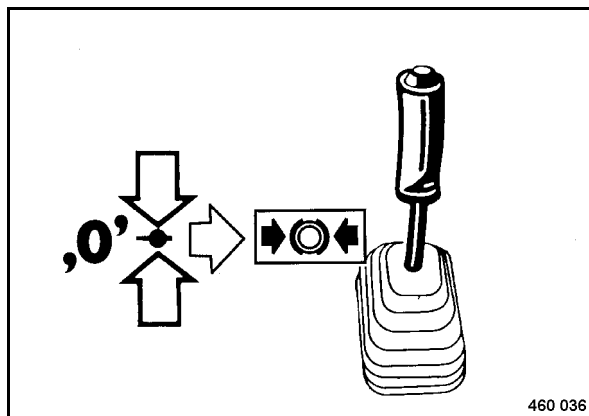

Fig. 53
- Check, whether the travel lever (Fig. 53) is locked to the right in braking position.